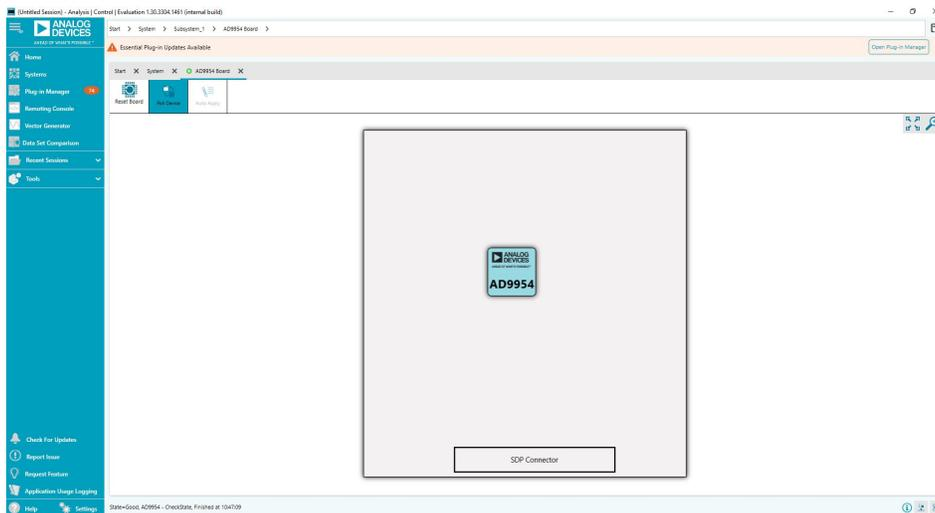

Figure 4. ACE Software AD9954 Evaluation Board Page
2. Double-click the **AD9954 Board** icon and the tab shown in the Figure 4 then appears.